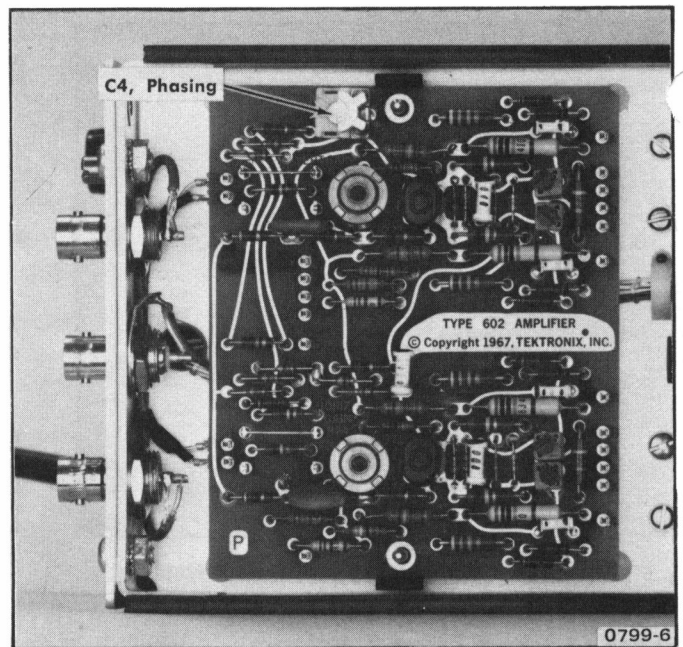

Fig. 5-5. Location of C4, Phasing Control.
- ADJUST—C4, Phasing, Fig. 5-5, for minimum trace opening.